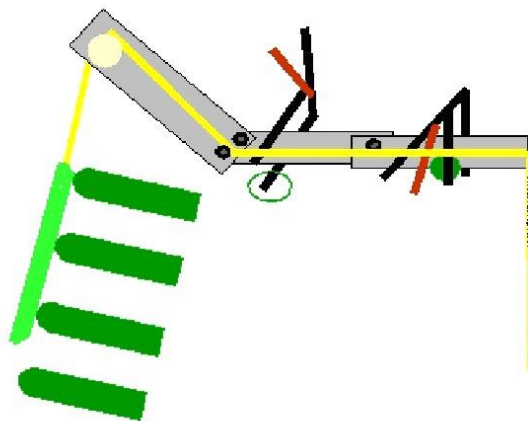

Figure 31: Assembly of 3DS encoder stick
3. Assemble the encoder stick as shown in figure 31 and put the tape measure across the encoder wheel.
5. Fix the encoder stick to the spine's roof using the cramps. Try to take a location in the horizontal middle of the antenna. Make sure that the tape is "free" when you fasten the cramps. Try to put the encoder wheel in the plane of the antenna surface (see figure 31).